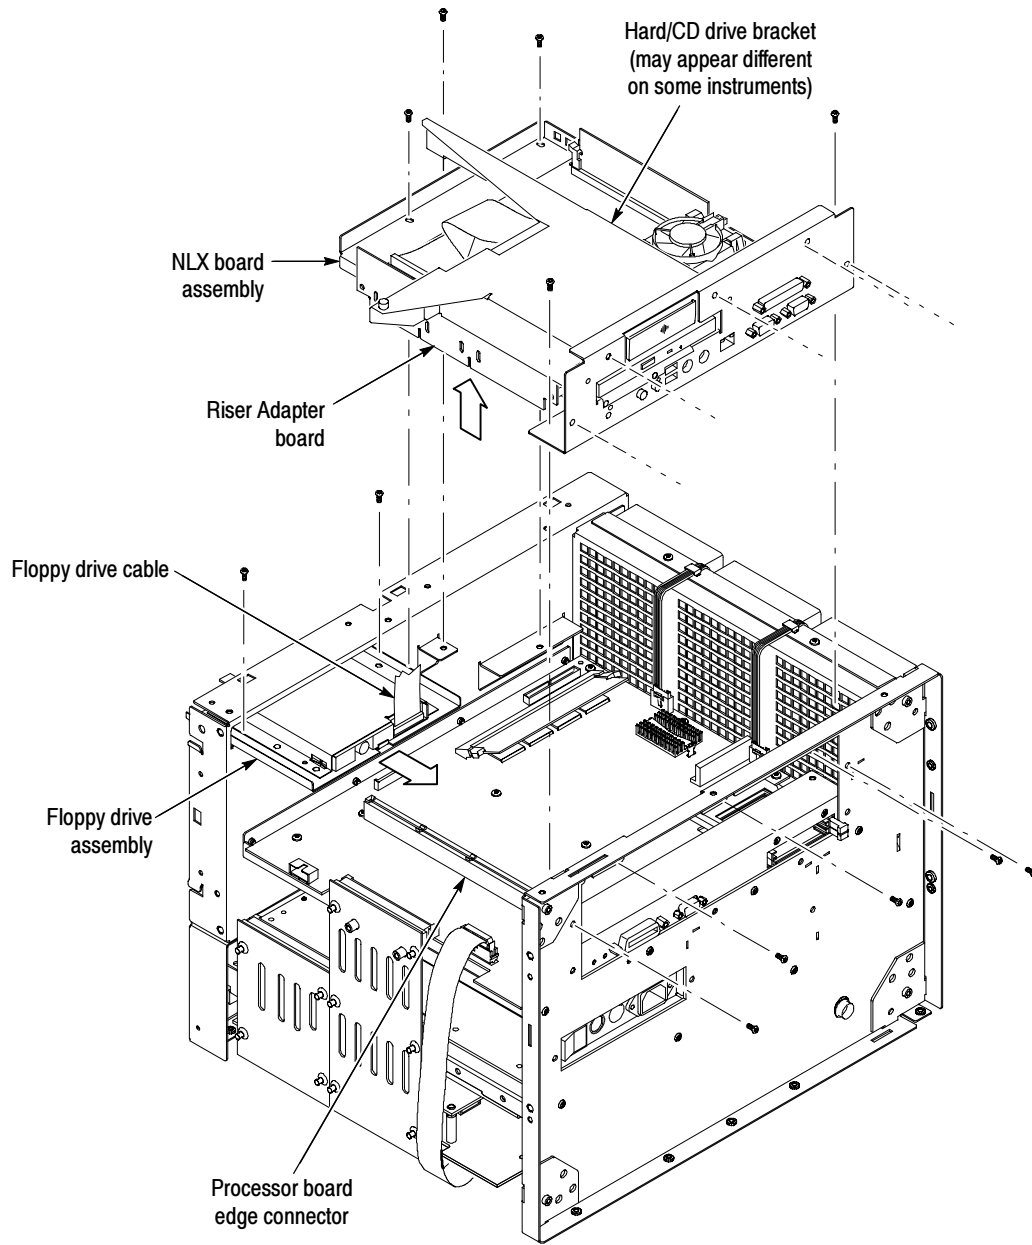

Figure 5: NLX assembly removal
1. *Locate the module:* Locate the NLX board assembly. See Figure 5, page 16
3. *Remove the NLX Board assembly:* Use Figure 5 on page 16 as a guide.
1. *Install the New NLX board assembly into the mainframe: See Figure 5, page 5.*